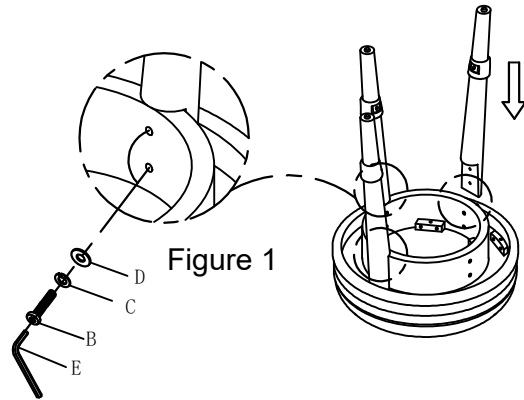

Figure 1
2. Attach 3 legs to the seat frame and tighten Bolt (B) with Lock Washer (C) and Flat Washer (D) by Allen Wrench (E) as shown in Figure 1.